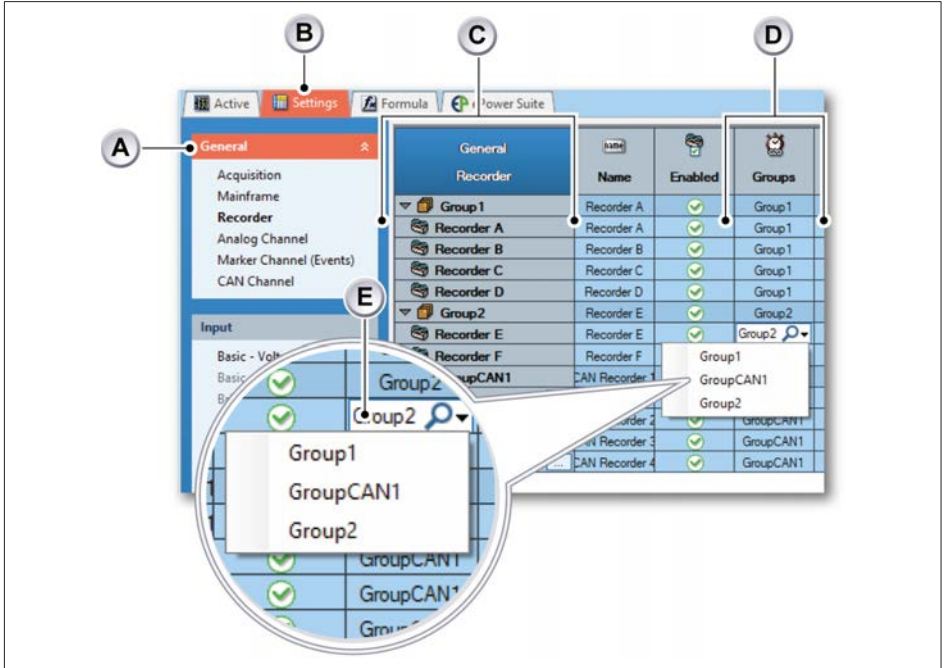

Fig. 9.1 Example of assigning a recorder to a group
A measurement setup may consist of several **Recorders (C)** or **Acquisition Cards** distributed over one or more mainframes. Perception recorders or acquisition cards can be collected in **Groups (D)**. The user can select which cards should be in which group. All the cards in a group have the same sample rate but different groups may have different sample rates. To assign a recorder to a group, go to the **Settings (B)** sheet tab and click **Recorder** in the **General area (A)** (as shown in Fig. 9.1). Double-clicking an entry in the **Groups (C)** column allows assigning this recorder to an existing group or by typing a new name, create a new group.